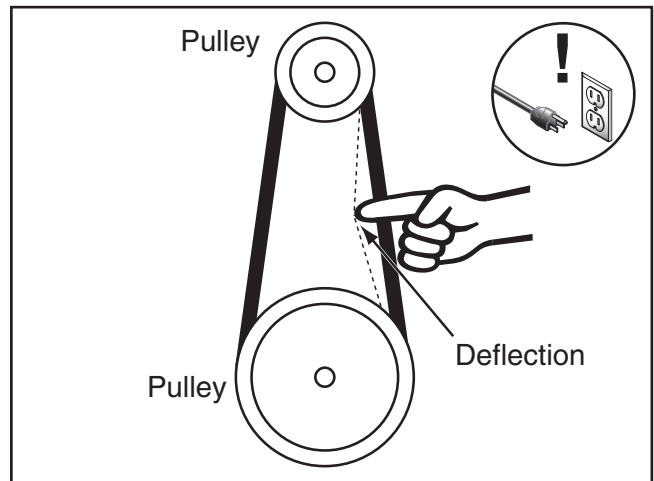

Figure 43. Checking belt deflection.
4. Press belt with moderate pressure in center to check tension. Belt is correctly tensioned when there is approximately 1/2" deflection when pushed as shown in **Figure 43**.